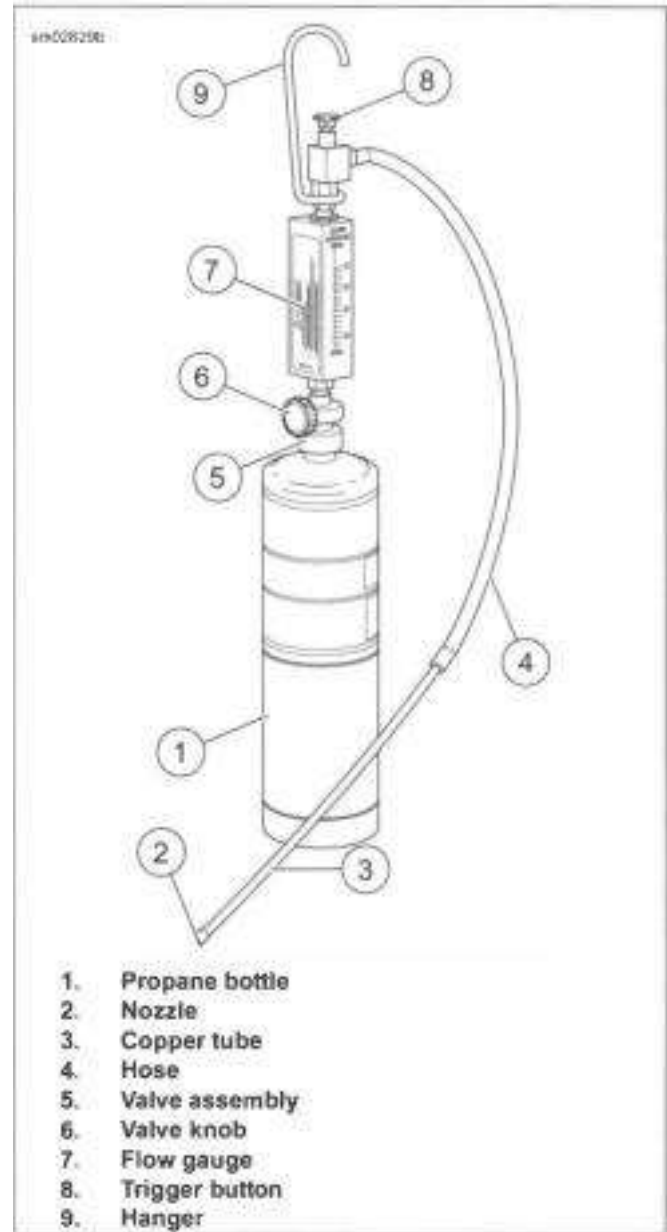

Figure 6-37. Leak Tester
1. See Figure 6-37 . Make sure valve knob (6) is closed (fully clockwise).
2. Install valve assembly (5) onto propane bottle (1).
1. See Figure 6-37 . Press and hold trigger button (8).
2. Slowly open valve knob (6) until pellet in flow gauge (7) rises 5-10 SCFH on gauge.